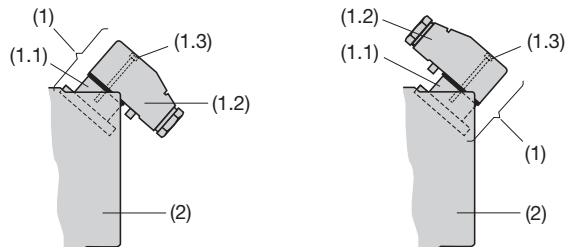

Fig. 1. Rear (2) with plug-in connector (1).
The **plug-in connector** (1) consists of a socket (1.1) mounted on the rear (2) of the transmitter and plug (1.2) on the end of the connecting cable (screw gland PG 11) and 7 screw terminals (wire gauges up to max. 1 mm²). The socket can be mounted so that the cable is routed to either the rear (Fig. 1, left) or the front (Fig. 1, right).